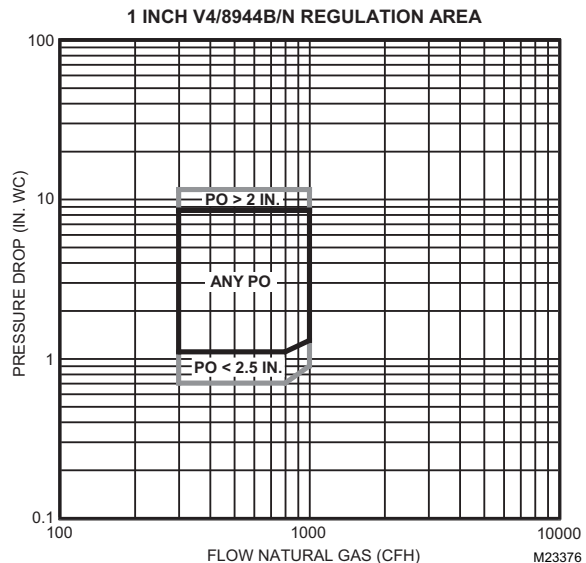

Fig. 2. Capacity vs. pressure drop of Natural Gas curves for 1 in. valve.
4. Find the valve size from Fig. 2–9.